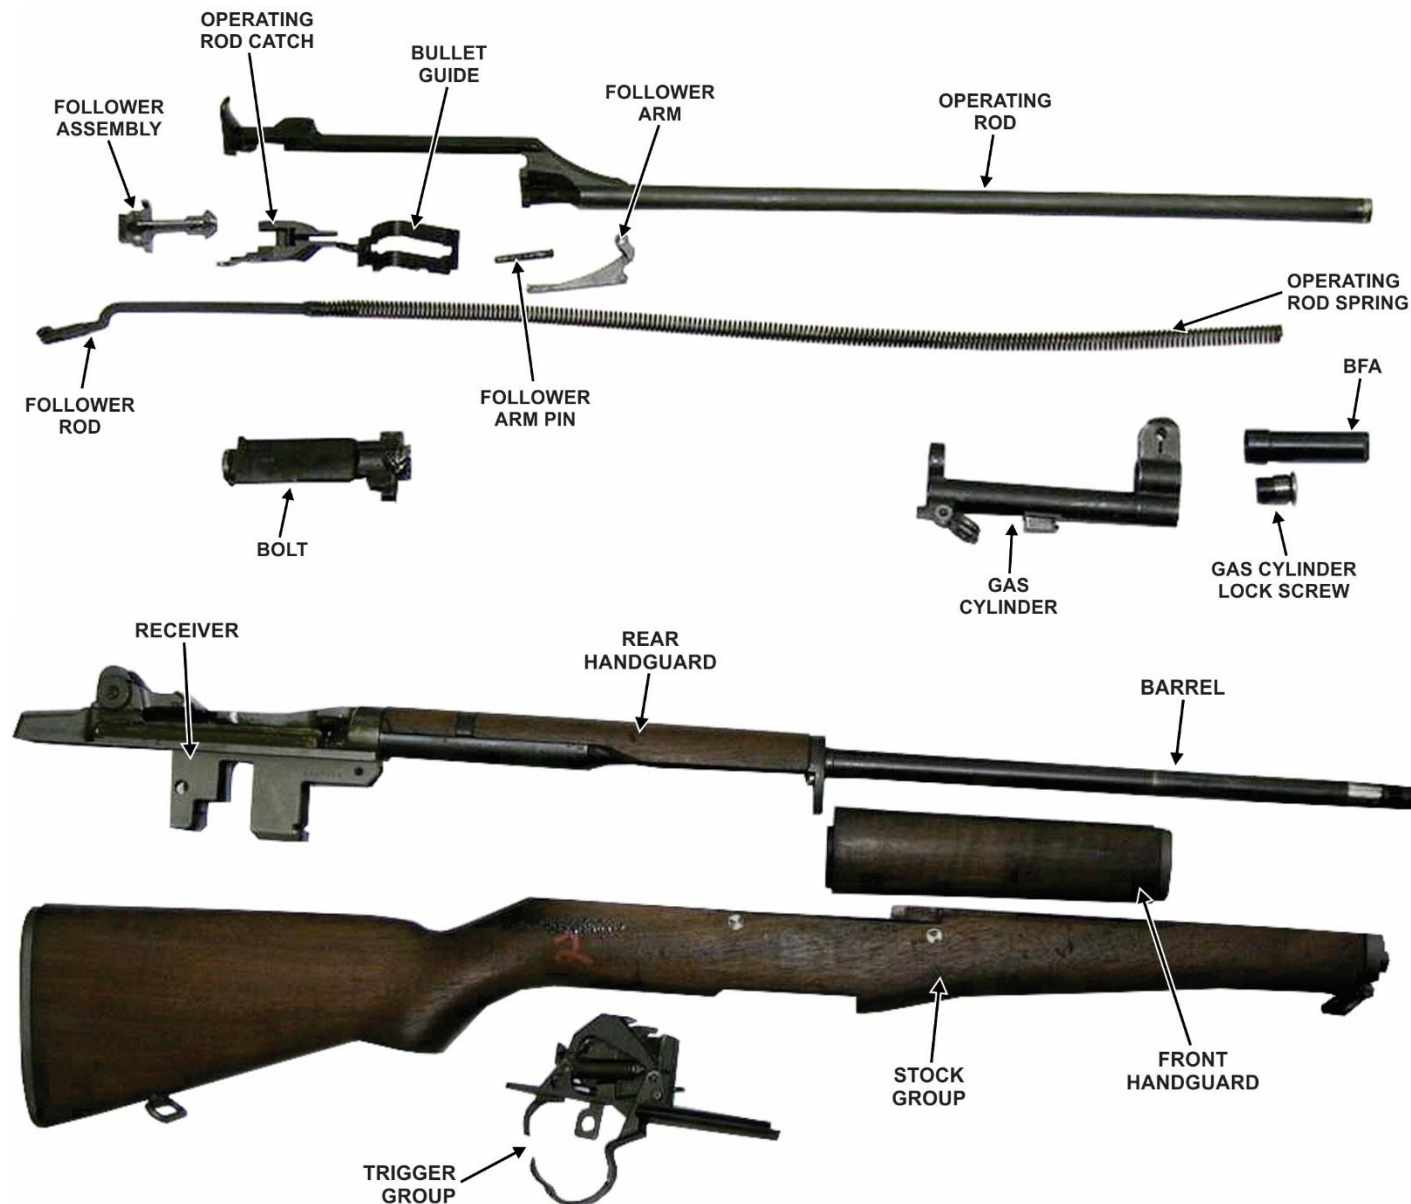

Figure 29. Disassembled parts of M1 Garand Rifle
11) The parts of the barrel and receiver group are shown below along with the stock group and trigger group (fig 29).